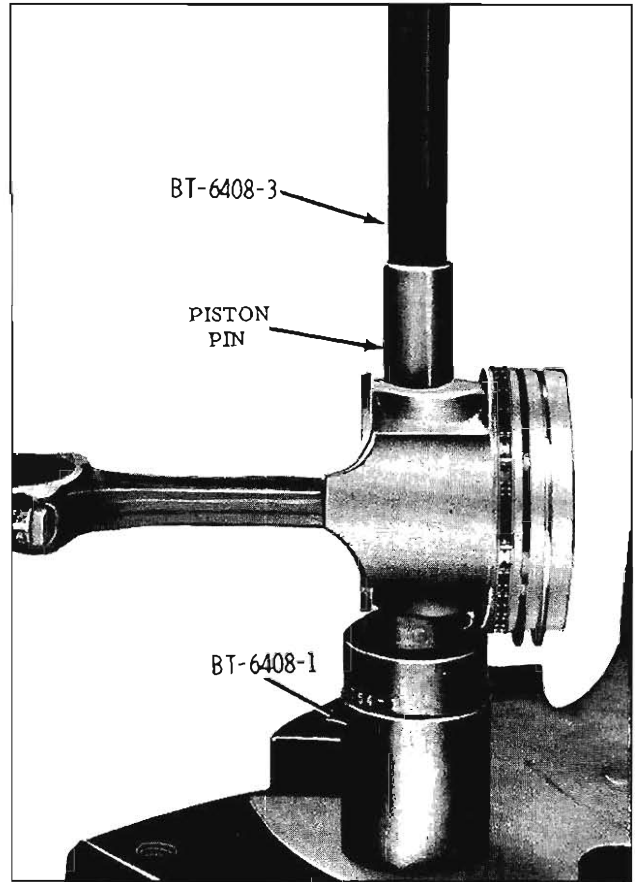

Fig. 3-437 Installing Piston Pin
3. Coat piston pin with SAE 10W30 oil. Place pin in piston as shown in Fig. 3-437. Press in piston pin with Tool BT-6408-3 until it makes contact with guide stop Tool BT-3408-2